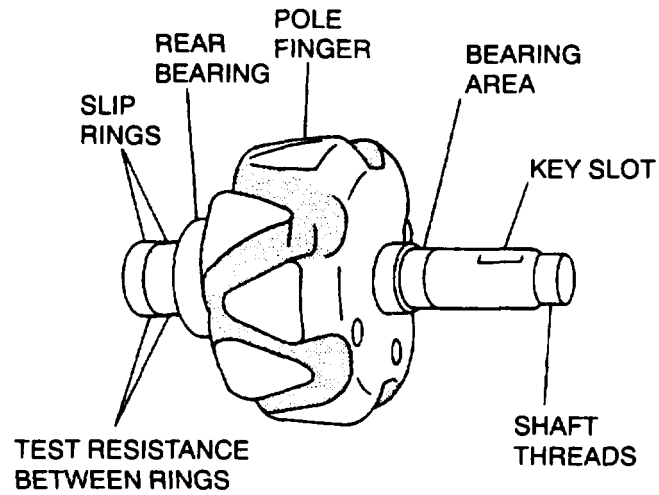

Figure 4-6. Rotor Test
- e. Set multimeter for ohms and check rotor assembly (Figure 4-6) for 40.5 – 43.8 ohms indication between slip rings. Also check that open circuits are indicated between rotor body and each slip ring. Replace entire rotor assembly if indications are other than stated.